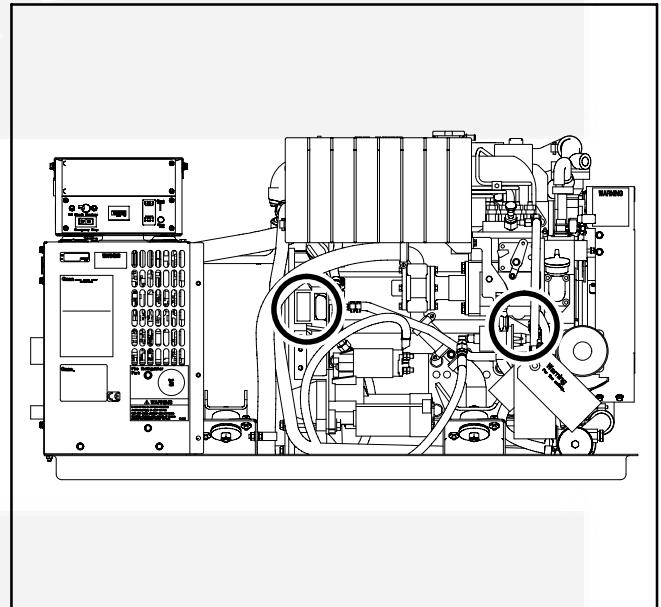

FIGURE 1-1. TYPICAL EMISSIONS LABEL LOCATIONS
1. *Model Number, including Spec Letter, and Serial Number (Figure 1-1).*
The label that states compliance with applicable engine emissions regulations is located on the engine as circled in Figure 1-1. Refer also to the FEDERAL EMISSION DESIGN AND DEFECT LIMITED WARRANTY FOR C. I. ENGINES (DIESELS) that was shipped in the same package as the Operator's Manual.